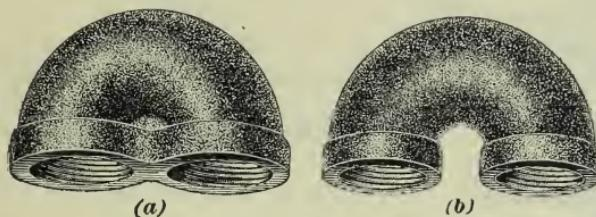

FIG. 44
**60.** Fig. 44 (*a*) shows a **close return bend**, and (*b*) an **open return bend**. The right-hand-thread return bend,